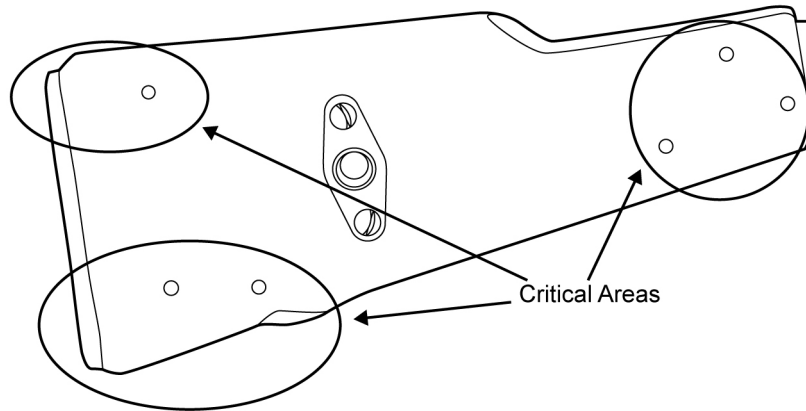

Figure 29. Critical Areas of the Fixed Buttstock.
- a. Check the fixed buttstock for cracks. Up to three cracks are acceptable. No cracks are acceptable in the critical areas (near pins or screws). Refer to Figure 29. Replace the buttstock if damaged.